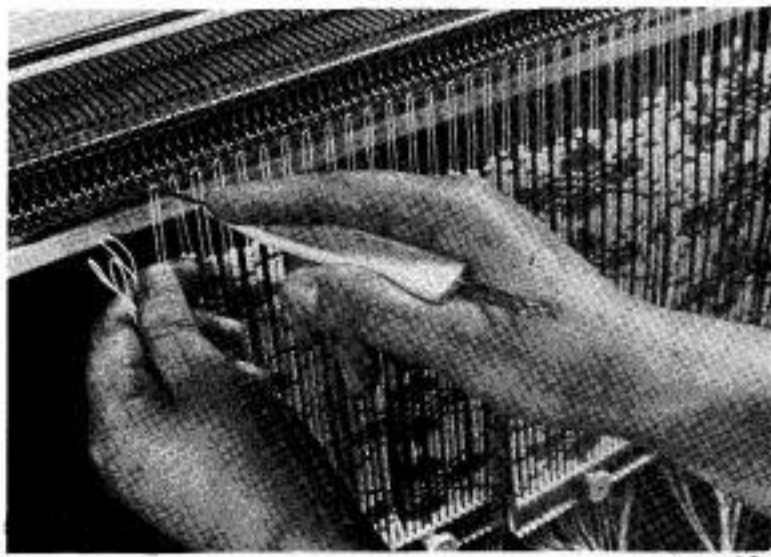

Fig. 163
- (b) Place each loop of the cotton into the hook of alternate working needles along that section of the work where the bead patterning is to be introduced (Figs. 163 & 164)